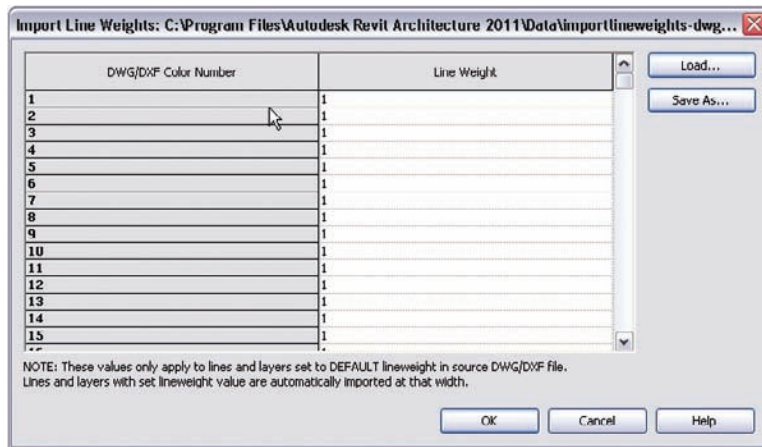

FIGURE 23.10 Importing some line weights
3. In the Import Line Weights dialog, notice that all the line weights are set to 1. This does not make for a very spectacular drawing. At the upper-right corner of the dialog is a Load button, as shown in Figure 23.10. Click it.